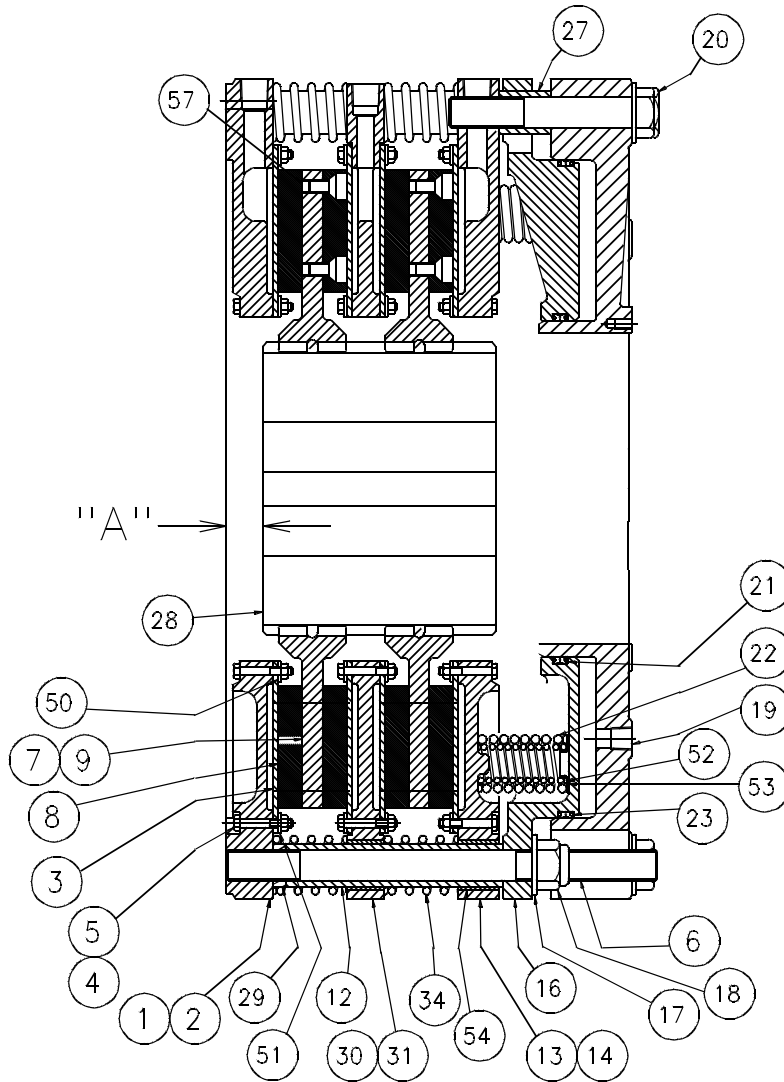

Figure 1
- 1.2.1 Referring to Figure 1, the gear (28) is mounted on the shaft which is to be stopped and the tensioner assembly is attached to the machine frame or a reaction bracket. As air pressure is applied through the ports in the cylinder (19), the cylinder and pressure plate (13), which are attached to each other with screws (20), flat washers (17) and spacer tubes (27), move away from the mounting flange (2), which is connected to the machine frame or reaction bracket.
- 2.1.1 Table 2 shows the relationship between the tensioner mounting surface and the end of the gear (dimension "A" on figure 1). The gear is bored and keyed for a resulting Class FN2S interference fit for inch shafting and ISO System S7h6 for metric shafting.
- 2.2.4 Press the gear onto the shaft, making sure that the dimension between the gear and the tensioner mounting surface ("A") is maintained. See Figure 1 and Table 2. Heating the gear uniformly to 250°F (121°C) will expand the bore and ease assembly.